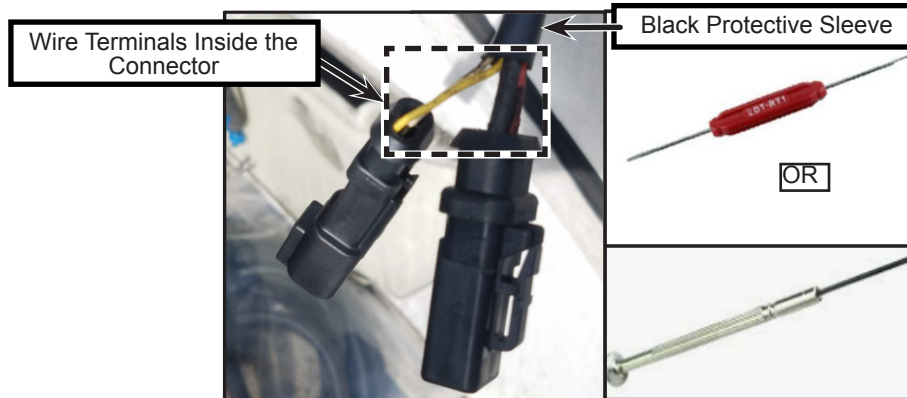

Figure 5 - Fan Side Connectors Removal and Tool Options for Terminals Extraction from the Connector Housing
- 1.12. On the fan side, extract the wire terminals inside the DTP and DT connectors using a Deutsch extraction tool or a small flat blade screwdriver. Then cut the terminals keeping the maximum wire length (see figure 5). Clean the wires with contact cleaner, if glue or dirt is present.